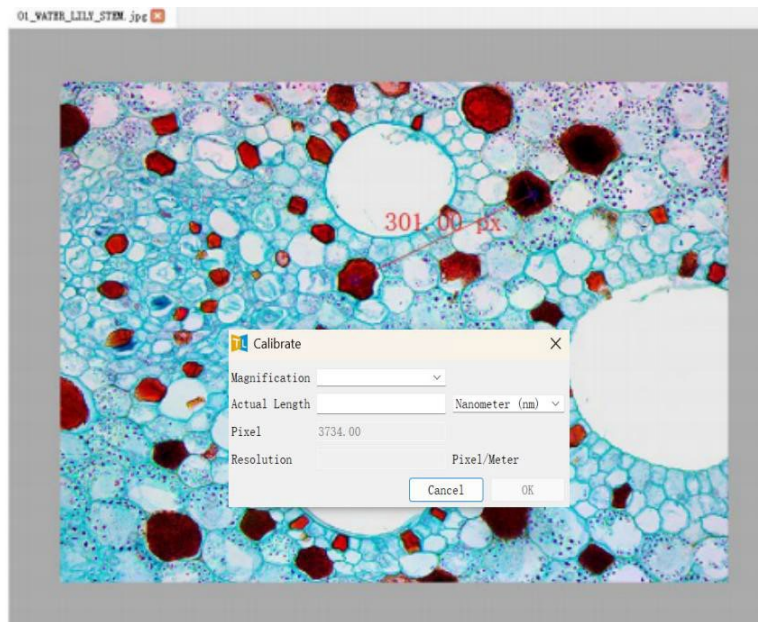

Figure 5-6 Example of Calibration Interface
- 2) When ALTRAvue LITE enters the calibration mode, the video/image window displays the calibration line and calibration window, as shown in Figure 5-6. The software will display the pixel value occupied by the calibration line;